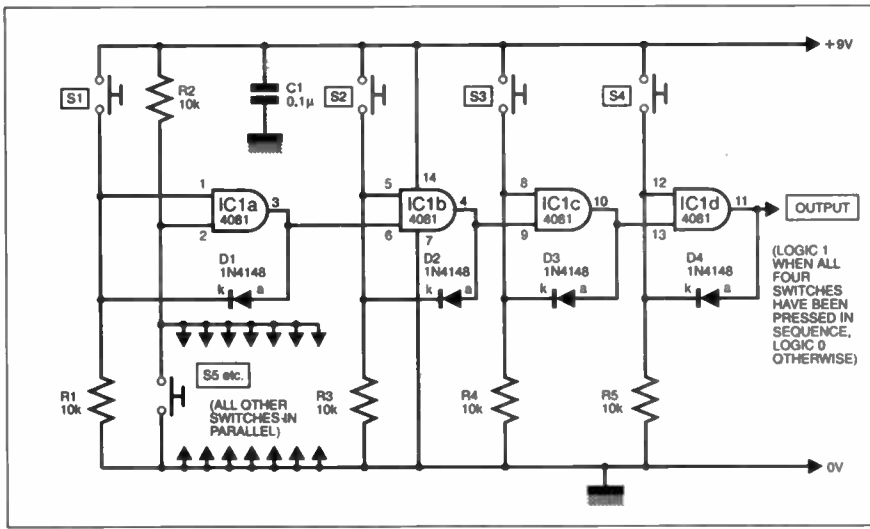

Fig. 2. The simple, but logical, circuit diagram for a coded-switch.
**A**LTHOUGH developed originally for a car Alarm project, the simple but elegant Code Switch circuit diagram shown in Fig. 2 could be utilised in a house alarm, security lock or similar. The circuit uses only one logic device together with a matrix keypad. The buttons on the keypad can be hard-wired to produce any desired combination.